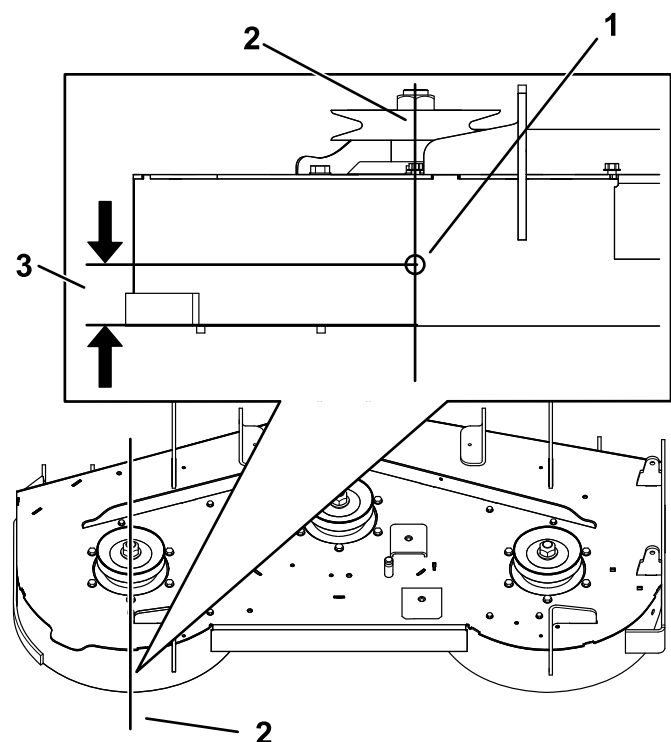

Figure 1
- Drill a hole at the marked location using a drill bit (9/32 inch) as shown in Figure 1.